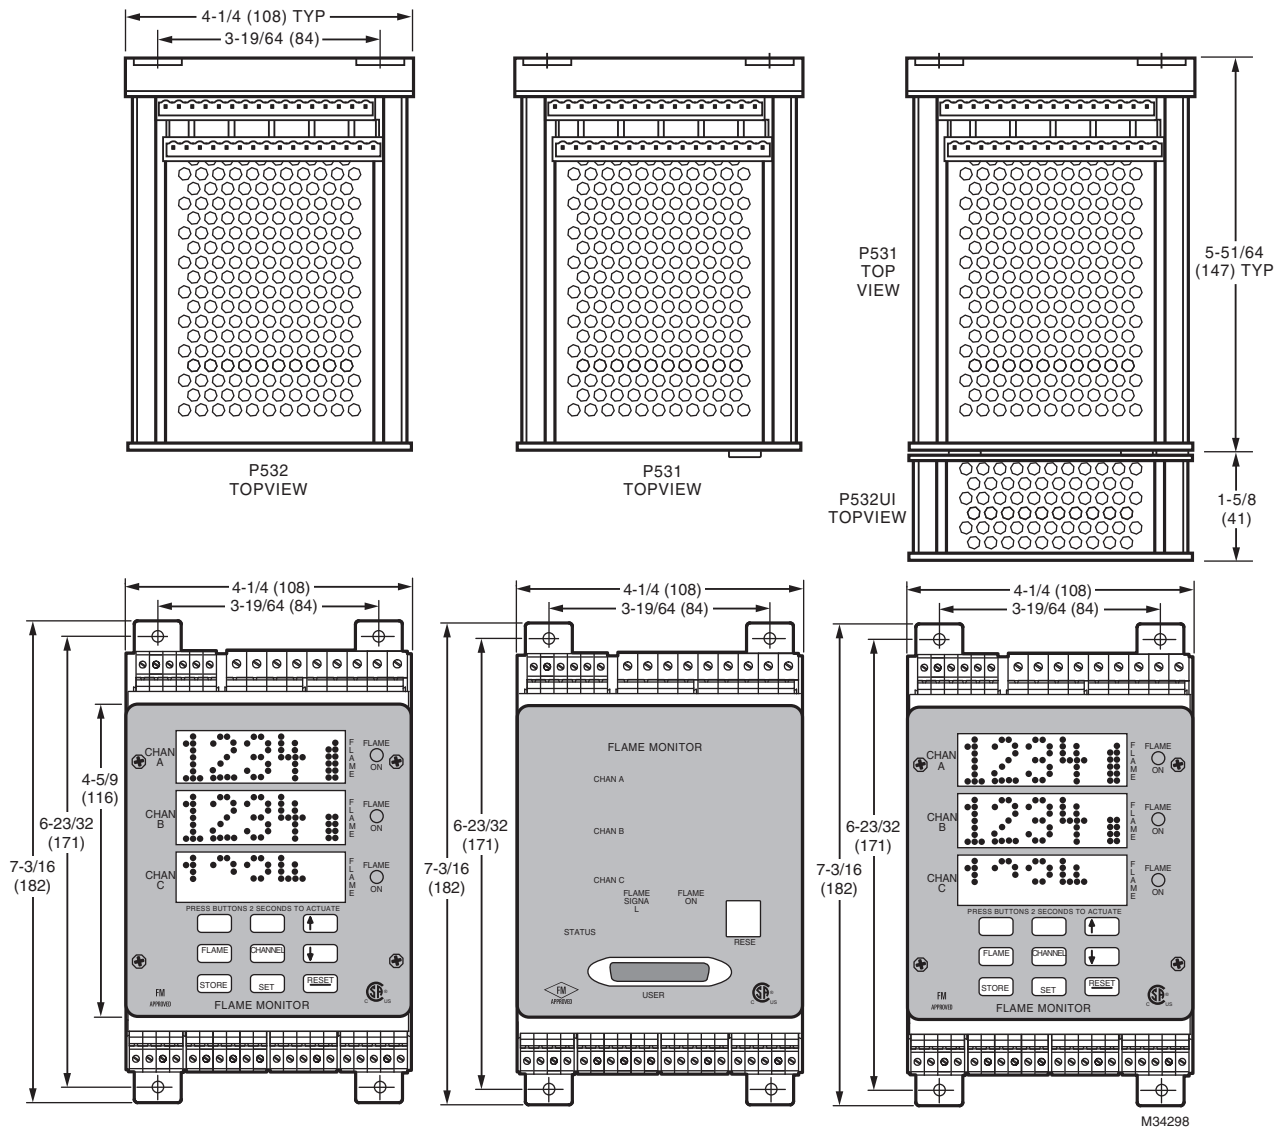

Fig. 1. P531, P532, P532UI Dimensions.
**Dimensions:** See Fig. 1.
The P531 or P532 Signal processor should be mounted (using the 4 holes in the corners of the base) to a vertical surface inside a suitable enclosure approved for the environment. Mounting holes are 3-19/64 in. (84mm) wide apart by 6-23/32 in. (171mm) high. Refer to Fig. 1 for details.